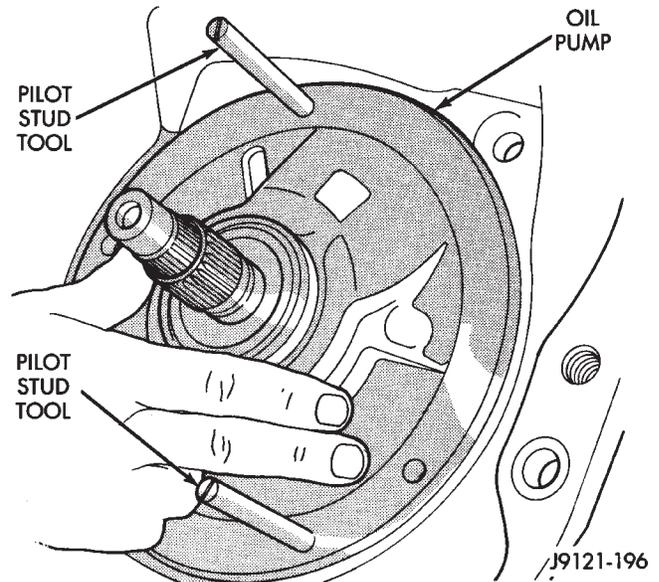

Fig. 149 Installing Oil Pump Assembly In Case
- (27) Install oil pump (Fig. 149). Align and position pump on pilot studs. Slide pump down studs and work it into front clutch hub and case by hand. Then install 2 or 3 pump bolts to hold pump in place.
- (28) Remove pilot stud tools and install remaining oil pump bolts. Tighten bolts alternately in diagonal pattern to 20 N·m (15 ft. lbs.).